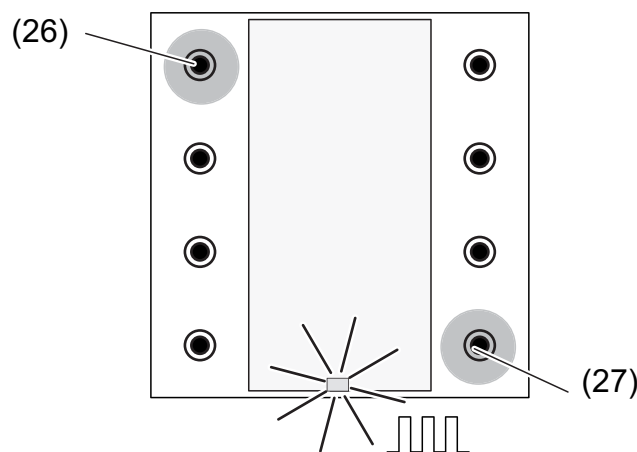

Figure 6: Buttons for activating Programming mode
- Activate Programming mode. Press button at the top left (26) and keep it depressed (figure 6). Then press second push-button at the lower right (27).